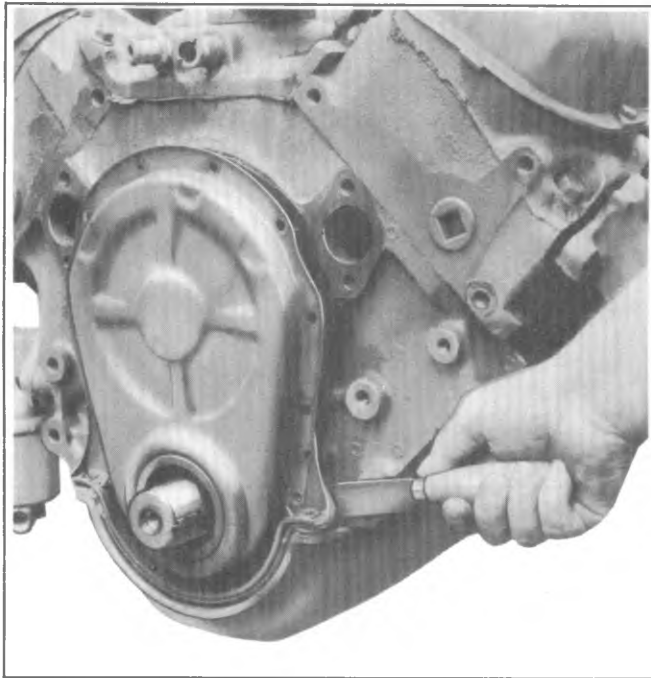

Fig. 6A2-38--Cutting Tabs on Oil Pan Front Seal
c. Pull damper into position as shown in Figure 6A2-37.